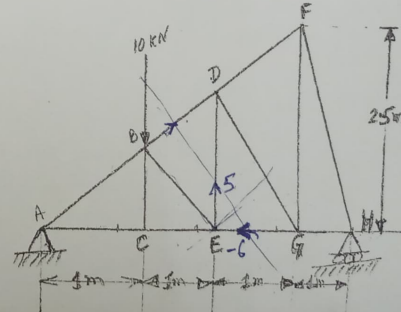
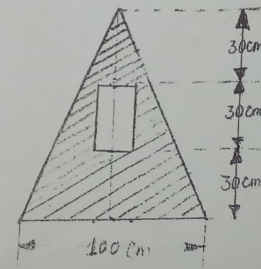

Fig 4(b)
Fig 5(b)
- Q5. A) Derive an expression for mass moment of inertia of a solid cylinder about its centroidal axis. (12)
b) Find second moment of area of given lamina about its Centroidal horizontal axis as shown in the given fig. 4. (13)
- Q8. a) A train of weight 1000kN is pulled by an engine on a level track at a constant speed of 45 km/h. The resistance due to friction is 1% of the weight of the train. Find the power of the engine. (8)
- b) A wheel of radius 1.5m rolls freely with an angular speed of 15 rpm and angular acceleration of 5 rad/s^2 both clockwise. Find the velocity and acceleration of point A and B which is shown in fig.5. (17)
- Explain the principles involved in (i) method of joints (ii) method of sections in the analysis of trusses. (4)
- For the simply supported truss shown in fig 4(b), find the forces in the members BD, DE and EG. (8.5)
- Derive from first principles, the centroid of a cone. (6)
- A rectangular hole is made in a triangular area as shown in fig 5 (b). Find the M.O.I of the shaded area about the centroidal horizontal and vertical axes. Width of the hole is 20 cm. (6.5)
- Q5 Fig. 4 shows a plane area. Find the M. I. of the section about x-x and y-y axis passing through the C.G. of the section. (12.5)
- Q7 The crank BC of a slider crank mechanism is rotating at constant speed of 30 rpm as shown in Fig. 5 clockwise. Determine the velocity of the cross head A at the given instant. (12.5)